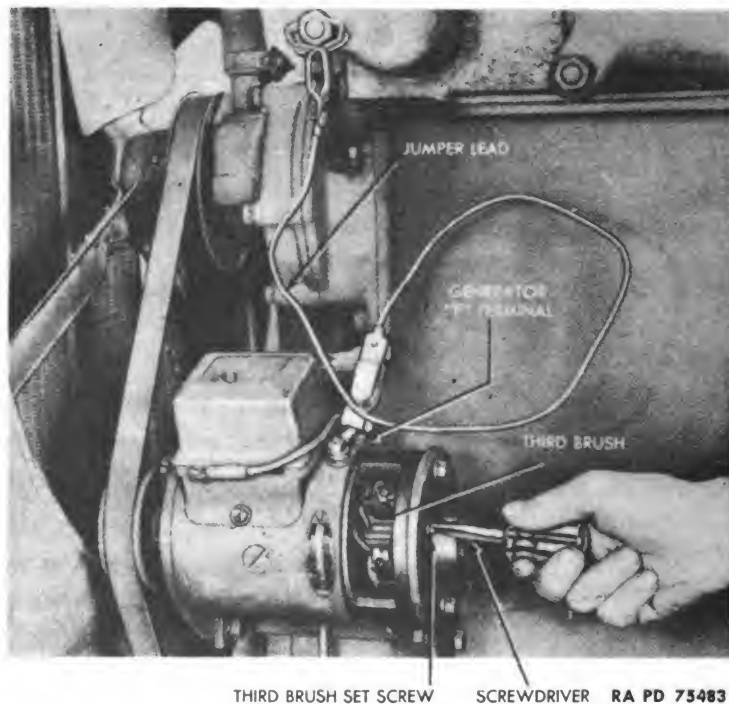

Figure 21 — Adjusting Compressor Unit Generator Output
(17) ADJUSTMENT OF GENERATOR OUTPUT (fig. 21).